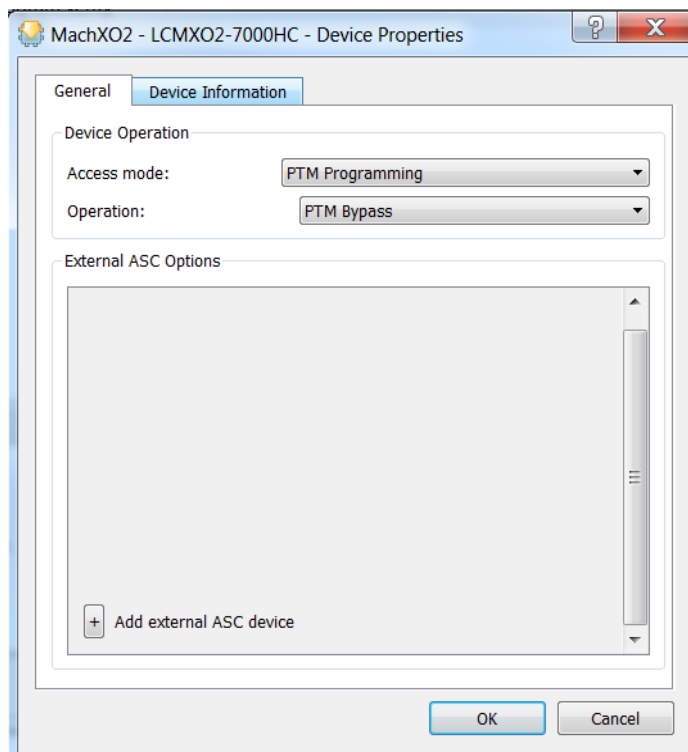
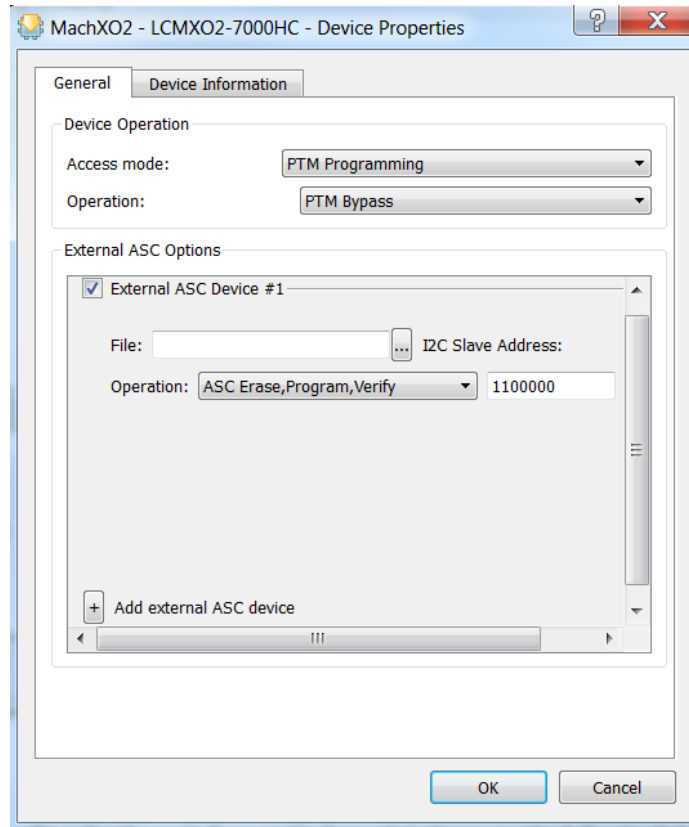

Figure 6.15. ASC Socket – Add External ASC Device
Figure 6.16. ASC Socket – ASC File Load Menu
4. Add an external ASC device, by clicking the  button as shown in Figure 6.15. The **Device Properties** dialog box appears as shown in Figure 6.16.